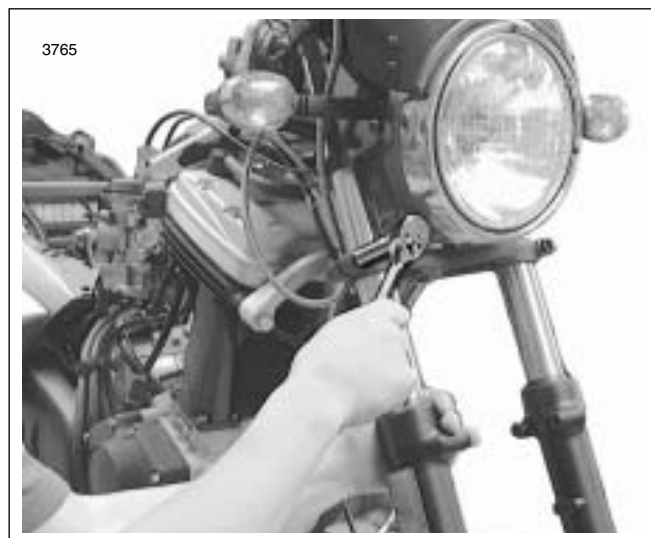

Figure 2-97. Upper and Lower Triple Clamp Pinch Screws
3. See Figure 2-97. Align and secure fork assemblies.